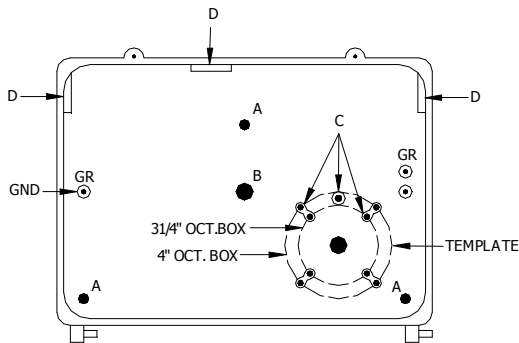

FIG.2
2. Prepare the back plate for mounting by drilling or knocking out the appropriate holes. (Fig. 2).